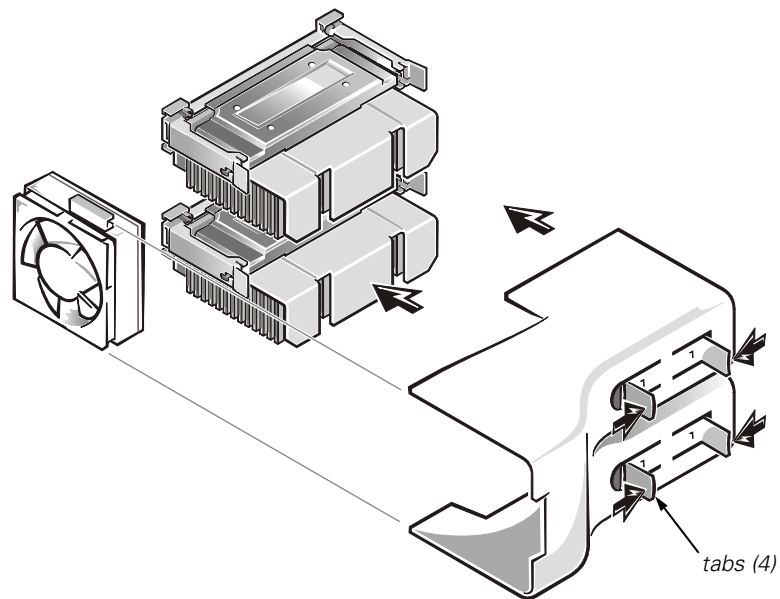

Figure 1-11. Installing a New Cooling Shroud Assembly
1. Carefully position the shroud into place with the square opening over the bulk-head fan and the top of the shroud's other end resting over the microprocessors, as shown in Figure 1-11.